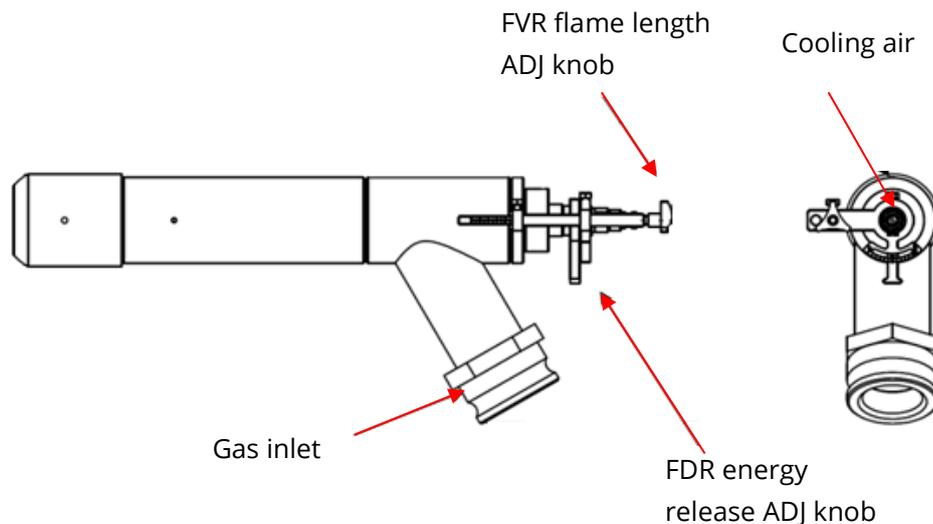

Figure 5: FlexFire® burner adjustment mechanism
2. As shown in Figure 5, FVR (Flow Velocity Regulator) is used for flame length adjustment. Rotate the FVR counterclockwise, the gas velocity increases, and the flame becomes shorter; rotate the FVR clockwise, the gas velocity becomes slower, and the flame becomes longer.